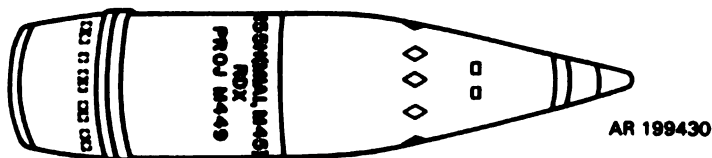

Figure 211.11. M449 series.
(10) *Projectile, 155-mm improved conventional munitions (ICM) M449 series (fig. 211.11).* These projectiles are improved conventional munitions used primarily against personnel. They are base-ejected projectiles and contain 60 M43 grenade submissiles. The grenades are dispersed in the air when the time fuze functions. When the grenades impact in the target area, submunitions are ejected and explode 4 to 6 feet (1.2 to 1.8 m) above the surface, producing fragmentation in a circular pattern. The projectile weighs approximately 95 pounds (43 kg) and uses the M565 or M577 fuzes.